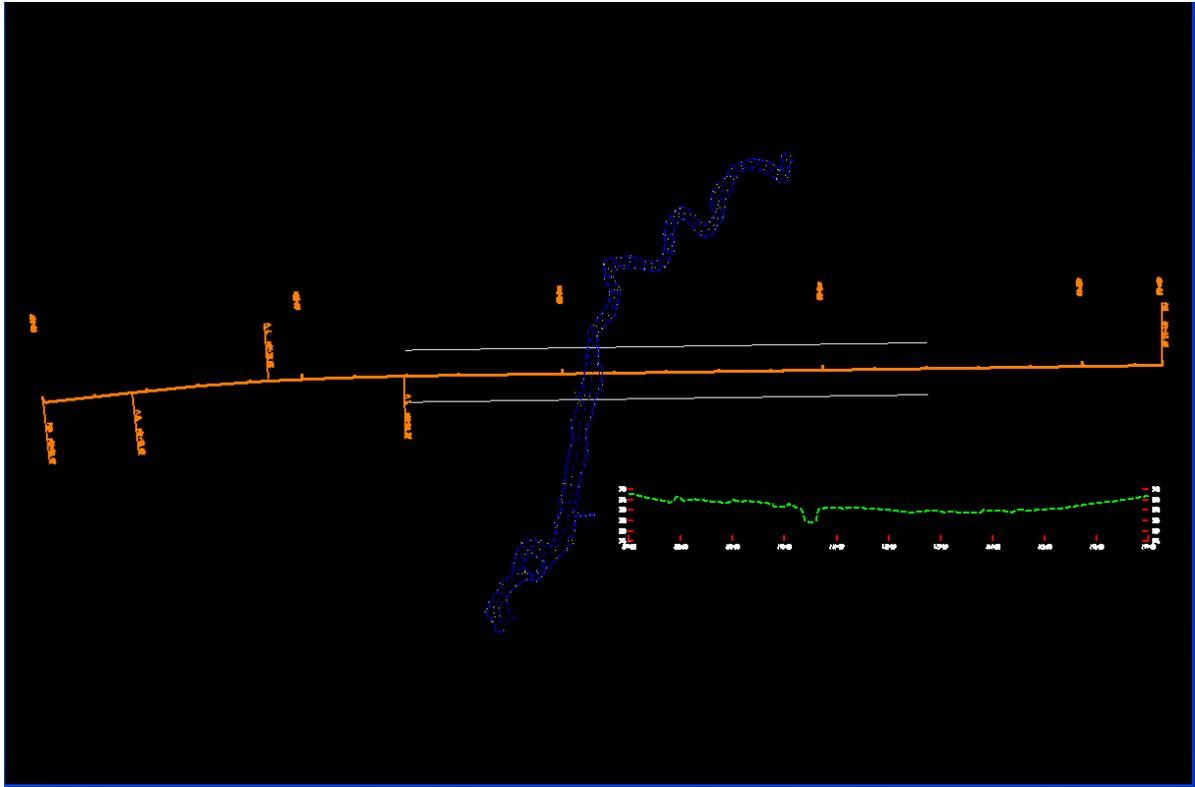

Figure L3-9 MicroStation View Window
- **Close** the **Create Profile** dialog and verify the existing ground profile for **BH50RT** was drawn in MicroStation as shown in *Figure L3-9*.